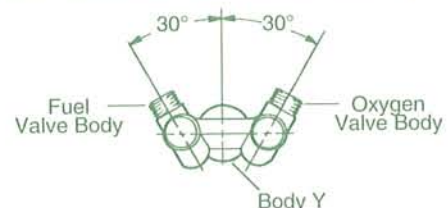

Fig. 2 - Aligning the Valve Bodies
8. Apply 2-3 drops of LOCTITE® #79 to the second and third male pipe threads of the Valve Bodies. Install the Valve Bodies in the Body Y. Tighten to a torque of 10 ft-lbs minimum. Align the Valve Bodies as shown in Fig. 2. **DO NOT** loosen the Valve Bodies after tightening.